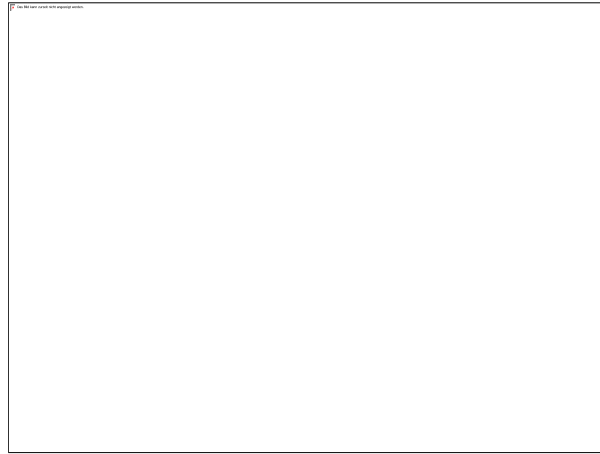

Fig. 3 - Sufficient travel (piston not in mechanical endstop)
- 4 Check that pneumatic piston is not at its mechanical stop during clutch activation (belt is short enough). In order to do so, activate pre-rotation (engine off) until clutch is fully engaged. Check that pneumatic cylinder is not in its mechanical end stop by manually compressing the cylinder further (Fig. 3).